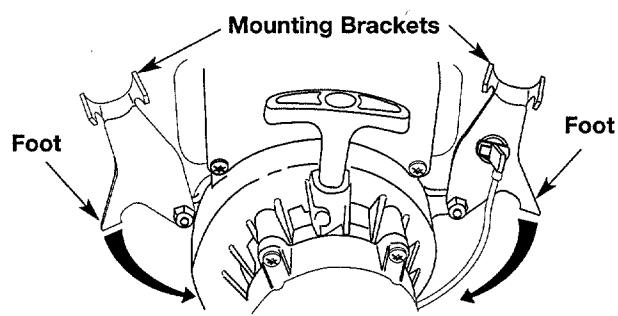

Figure 4
1. Position the mounting brackets by rotating them until the foot on the bracket rests against the engine. See Figure 4.